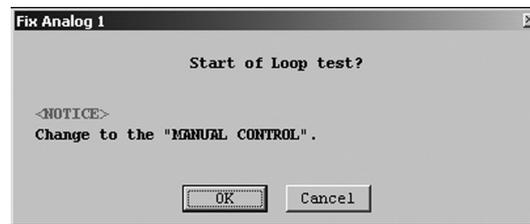

Fig.118
- ③ Click the "Start" button to display a message box (Fig. 118). Click the "OK" button to start "Fix Analog".